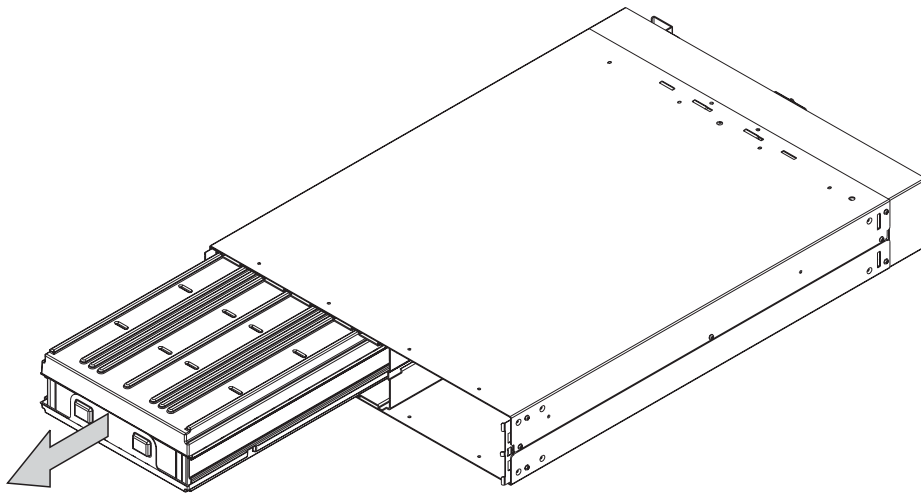

Figure 21. Removing the uninterruptible power supply battery assembly
6. With aid from another service representative, pull the battery assembly out onto a flat, stable surface (see Figure 21). Put the battery assembly to one side.